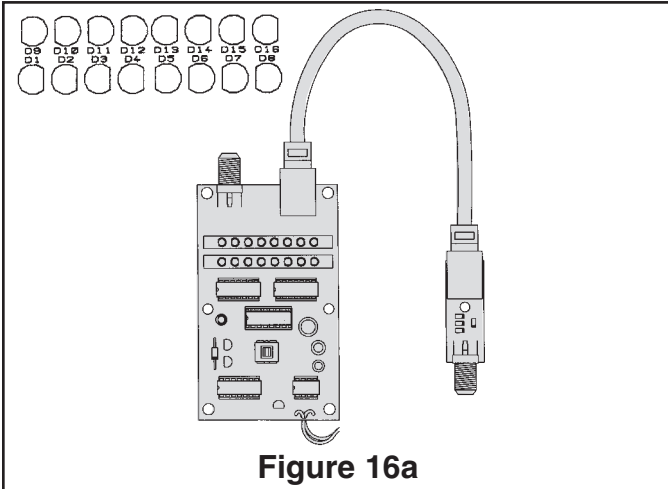

Figure 16a
- 1. Connect one end of the straight cable to the modular jack on the PC board of the terminator and the second end to the PC board of the cable tester as shown in Figure 16a.